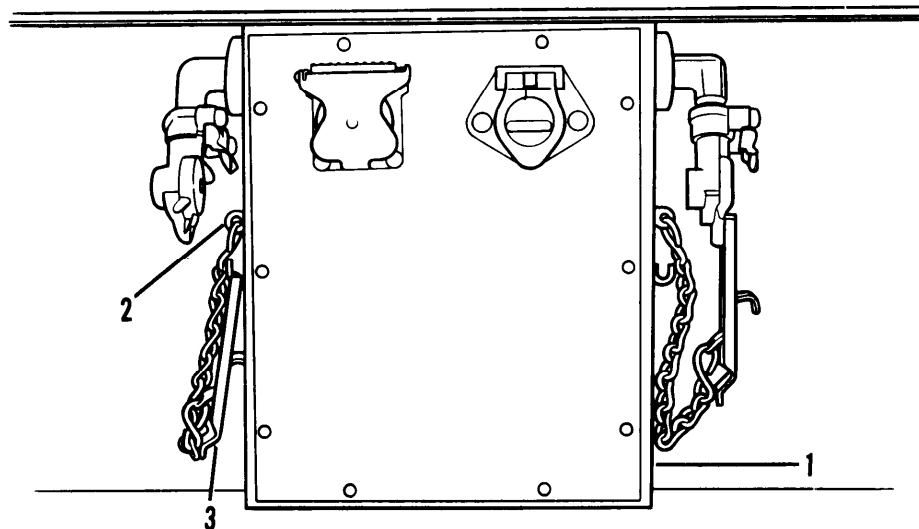

Figure 4-29. Dummy Coupling
- (1) Using cutting torch, cut weldment (fig. 4-29).
- (2) Grind weld off nose box (1) surface.
- (3) Repeat steps 1 and 2 for other dummy coupling as needed.
- (1) Position s-hook (2, fig. 4-29) and dummy coupling (3) according to recorded measurements.